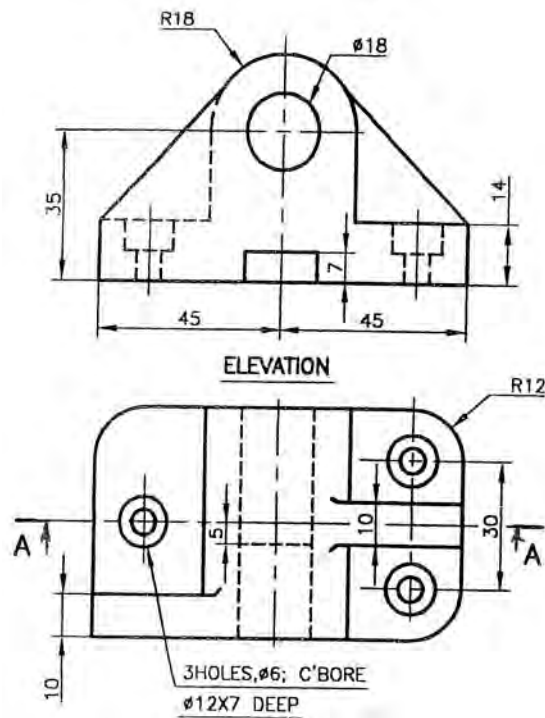

Fig. 7
9. The Figure 7 shows elevation and plan of a machine part. Draw